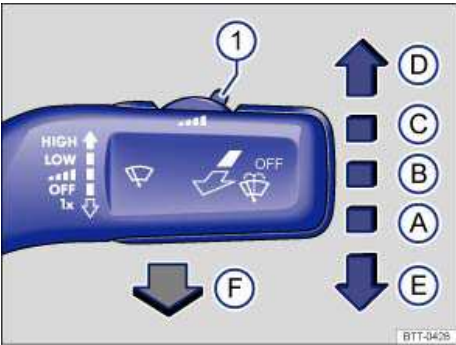

Fig. 78 Operating the front windshield wipers.
- Press the windshield wiper lever down briefly ⇒ fig. 78 \(E\) when the ignition is off.
Carefully fold the wiper arms back onto the windshield before driving! Switch the ignition on and press the windshield wiper lever down briefly ⇒ fig. 78 \(E\). The wiper arms move back to their original position.